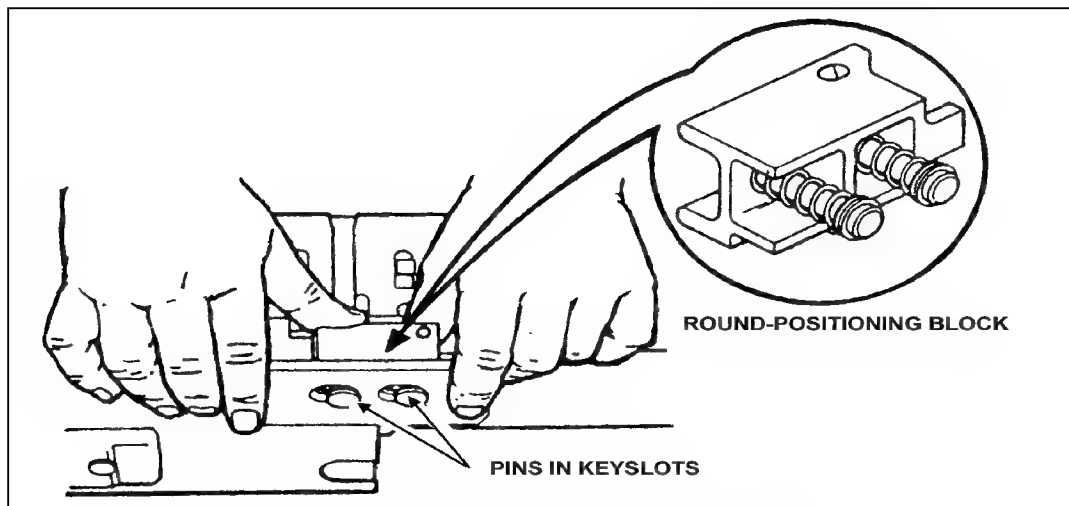

Figure 2-17. Round-positioning block.
- (7) Take off the round-positioning block by following these procedures:
- (c) Release the round-positioning block forward from the keyslots in the receiver wall (Figure 2-17).